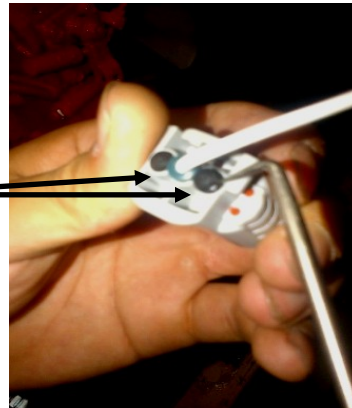

Figure 2
- 5- Remove 2 small black plugs in alternator connector. (Figure 2)